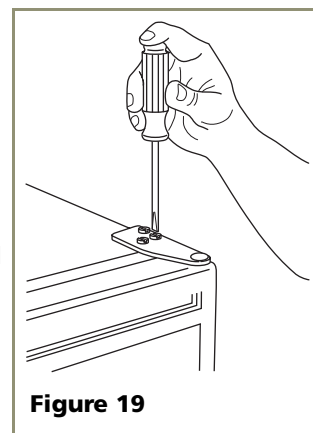

Figure 19
1. Loosen (do not remove) top and bottom hinge screws. See **Figure 19**.